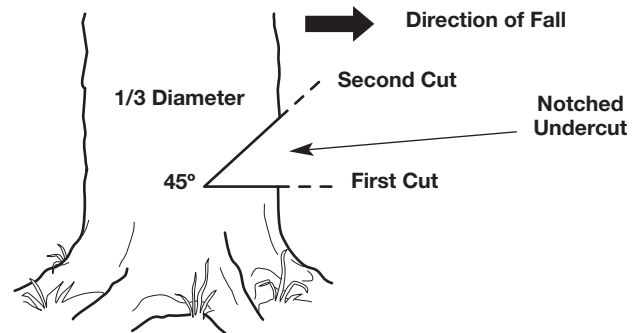

Fig. 14
1. Make a horizontal cut into the trunk of the tree (Fig. 14). The cut should be about 1/3 the diameter of the tree and close to the ground. To prevent the guide bar from being pinched by the weight of the wood, always make this cut first.
2. Make a 45° cut into the trunk of the tree, above the first cut (Fig. 14). Continue cutting until the two cuts meet.